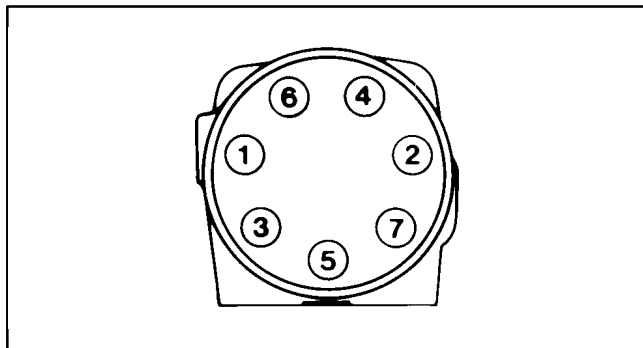

Figure 50
26. Install 7 dry cap screws with new seal washers in end cap. Pre-tighten screws to 150 inch pounds, then torque screws to 275 inch pounds in sequence shown in Fig. 50.